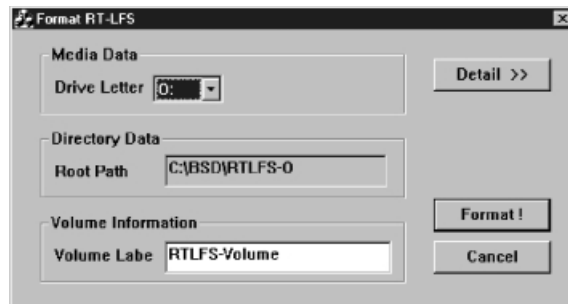

Fig. 11 Format RT-LFS tool dialog box
9. The RT-LFS format tool starts up, and the dialog box shown in Fig. 11 appears.
9. The RT-LFS format tool starts up, and the dialog box shown in Fig. 11 appears. Set "L" for "Drive Letter," and click [Format].